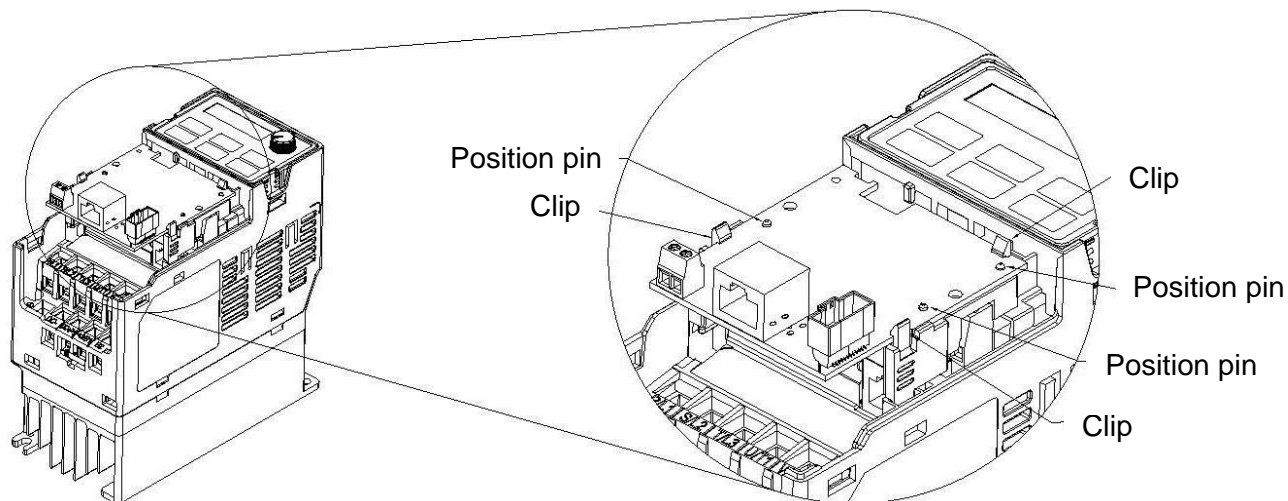

Fig. 8-2
4. As shown in Fig. 8-2, aim the three holes at the positioning pin. Press the pin to clip the holes with the option card.